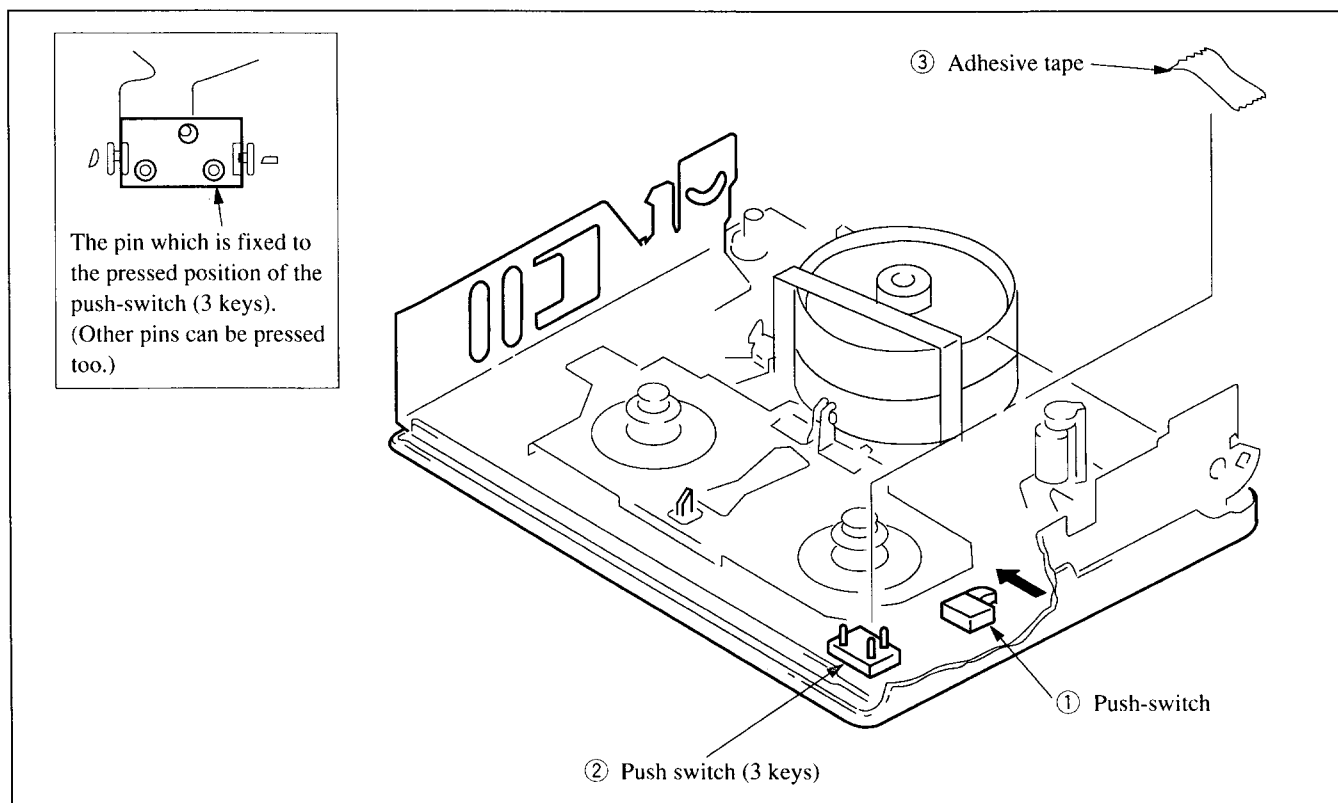

Fig. 2
1. How to load a cassette tape (Refer to Fig. 2):